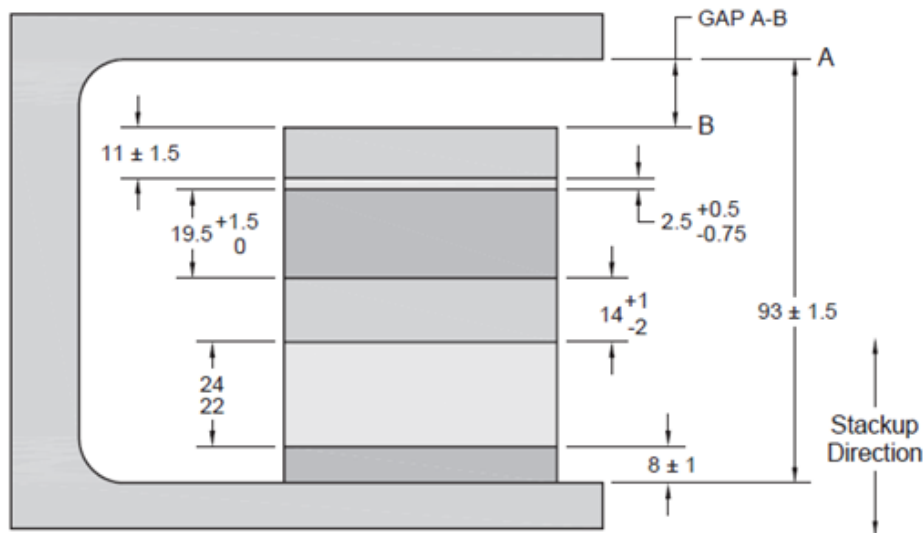

Figure 3
3B Perform the statistical RSS method based tolerance stack up analyses on the assembly shown in **Figure 3** and solve for minimum and the maximum gap between A and B. Draw the tolerance stack up sketch and tolerance table. What would be the minimum and maximum gap if modified RSS method is applied to this assembly? (06)